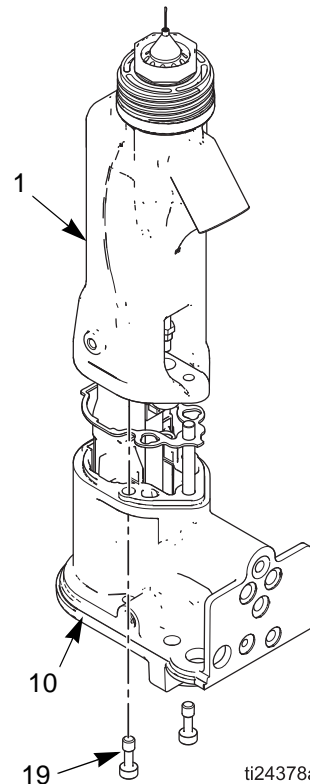

FIG. 34. Barrel Removal
4. Loosen the two screws (19). See FIGURE 34.
5. Hold the gun body (10) with one hand and pull the barrel (1) straight off the body. See FIGURE 34.